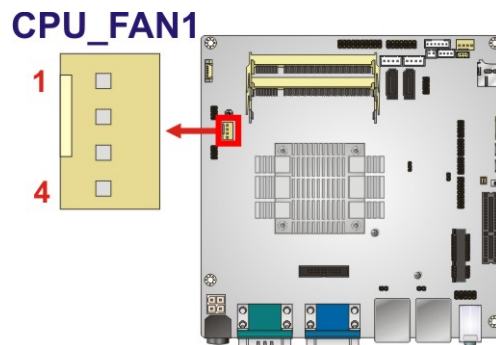

Figure 3-8: CPU Fan Connector Location
**CN Location:** See Figure 3-8